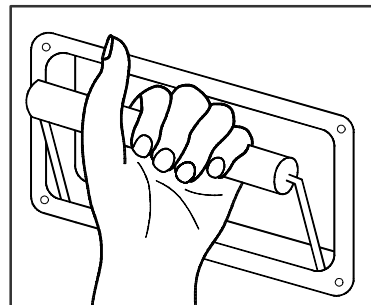

FIGURE 3-21: UNFOLD STEP WITH PALM UP
- 2) Refer to **Figure 3-21**. Grasp the recessed handle (located at left side of step) with palm UP and unfold middle platform section.